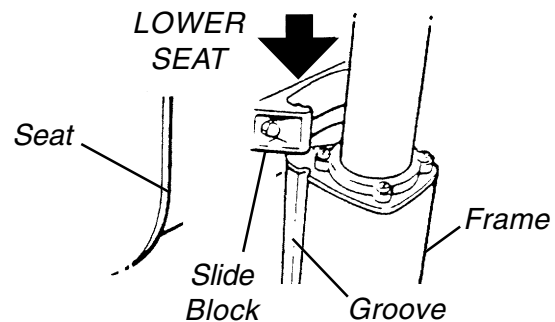

FIGURE 18 - INSTALLING THE SEAT
3. Lower the seat onto the frame, ensuring that the slide block on the back of the chair slides down the two (2) grooves on the frame (FIGURE 18).